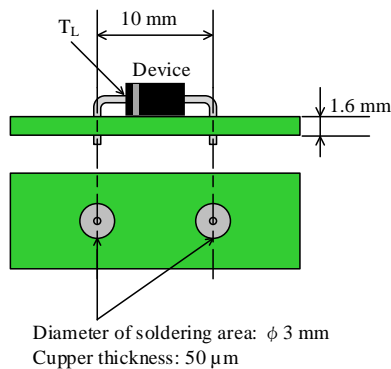

Figure 1. Lead Temperature Measurement Conditions
| Thermal Resistance (1)              | $R_{th(J-L)}$ | See Figure 1.                                   | —    | —    | 20   | $^\circ\text{C/W}$ |
(1)  $R_{th(J-L)}$  is thermal resistance between junction and lead. Lead temperature ( $T_L$ ) is measured near the root of pin (see Figure 1).